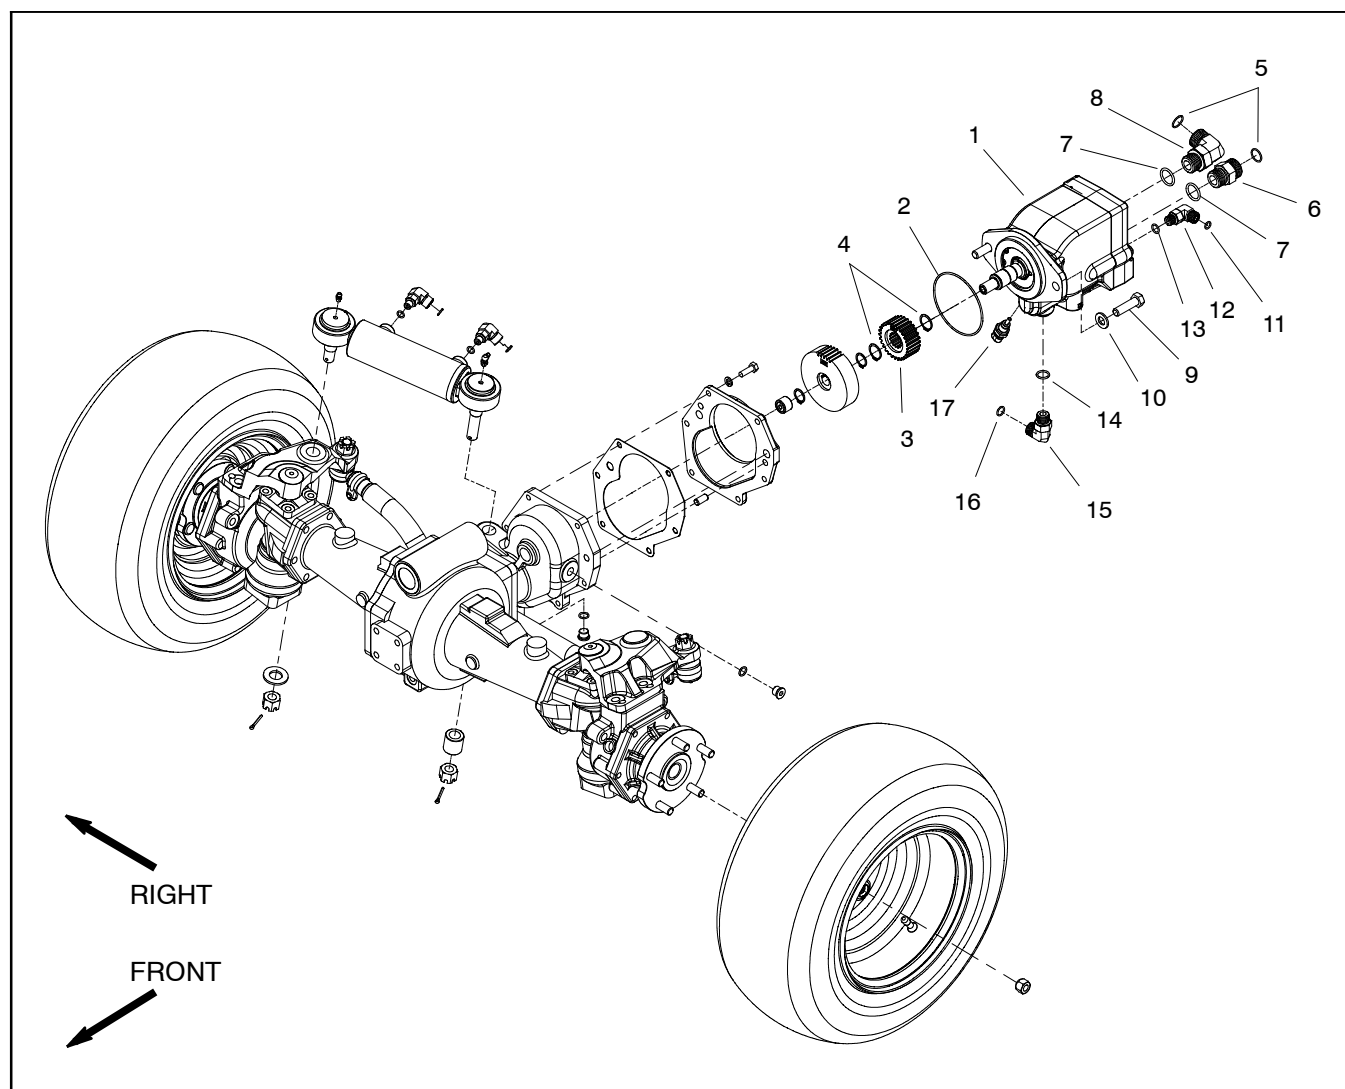

Figure 78
**Removal (Fig. 78)**
4. Disconnect wire harness connector from the temperature sender (item 17) on the rear axle motor.
6. Remove motor using Figure 78 as a guide.
**Installation (Fig. 78)**
3. Install O-ring (item 2) onto motor. Position motor to rear axle assembly, align gear teeth and slide motor into place.
6. Connect wire harness connector to the temperature sender (item 17) on the rear axle motor.